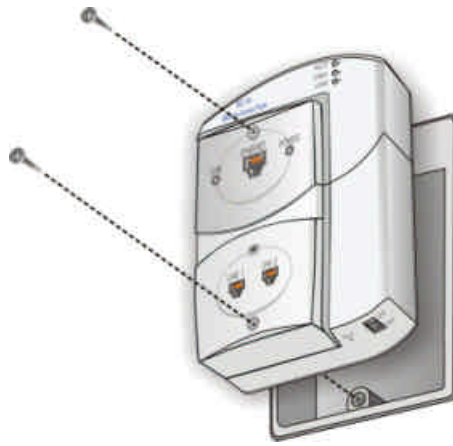

Figure 2.7 Screwing the Wireless Access Point into the Wall
8. Screw the *NetHome* Smart Outlet and Wireless Access Point adapter into the wall, using the mounting screws provided (refer to Figure 2.7).